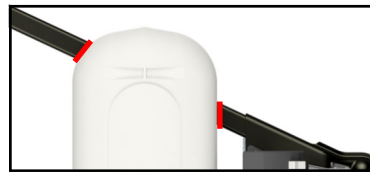

FIGURE C1: Top of A-frame with propane tank cover.
- If present, mark the front and back edges of the propane tank cover, **as shown in Figure C1**. Then remove the propane tank cover.